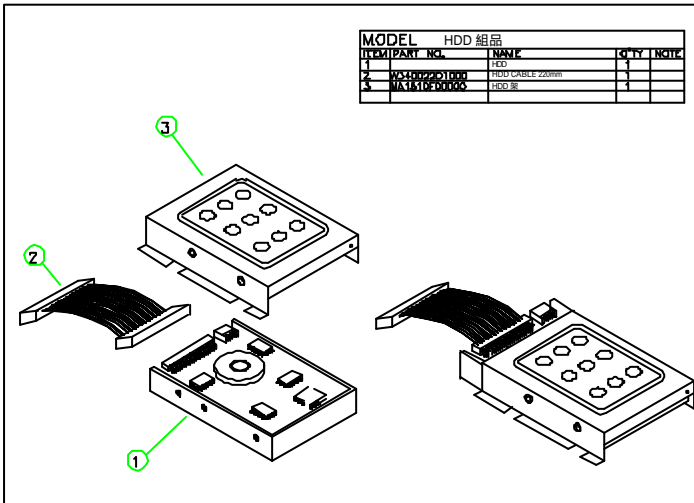

FIGURE 5-5: HDD INSTALLATION
2. Refer to Figure 5-5. Fix the hard disk drive (1) to the HDD bracket (3) with one FTS 3*5 screw.
3. Connect the one end of the 40-pin IDE ribbon cable (2) to hard disk drive.